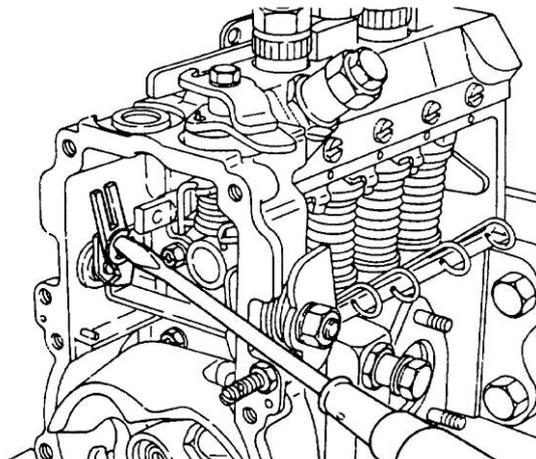

Figure 92 Removal of the Sensor Lever
- o.** Remove the snap-ring securing the sensor lever to the U-shaped lever and remove the sensor lever (Figure 92).